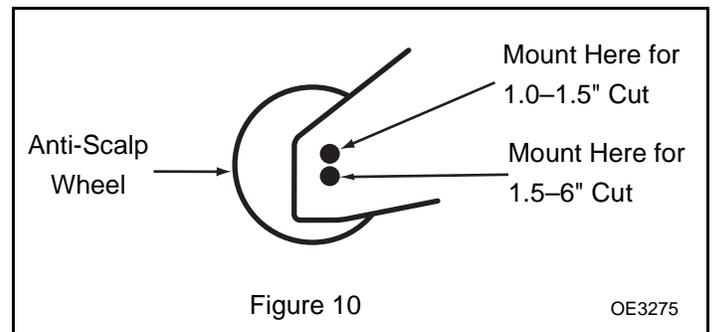

Figure 10
4. To adjust the anti-scalp rollers, remove the 1/2-13 x 5" bolts and reinstall the bolts in the appropriate hole for the desired height of cut (see figure 10).